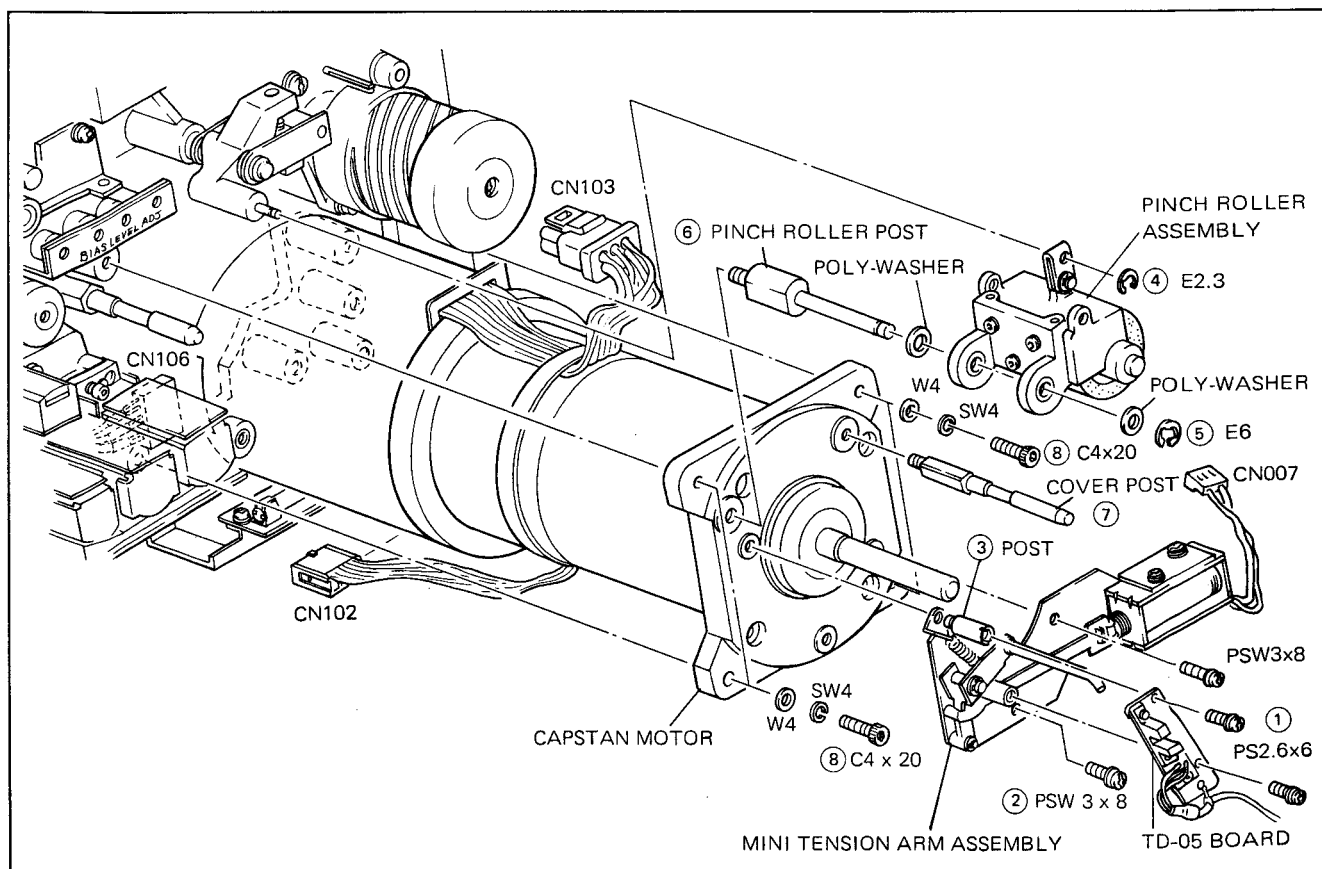

Fig. 3-48. Capstan Motor Replacement
3. Remove the two screws ① (PS2.6×6) securing the TD-05 board.
4. Remove the two screws ② (PSW3×8) and the post ③ shown in Fig. 3-48, and remove the mini tension arm assembly.
5. Remove the two E rings ④ and ⑤, and remove the pinch roller assembly and the poly-washer.
6. Remove the pinch roller post ⑥ and the cover post ⑦.
7. Remove the 4 screws ⑧ (C4×20), and remove the capstan motor.